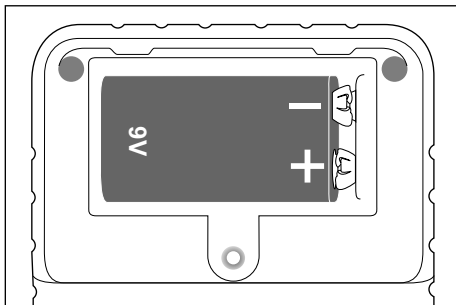

Fig. 2
- 2) Connect the 9 V block battery **8** with the correct polarity (observe + and -) to the battery clip and place the 9 V block battery **8** in the battery compartment (see Fig. 2).